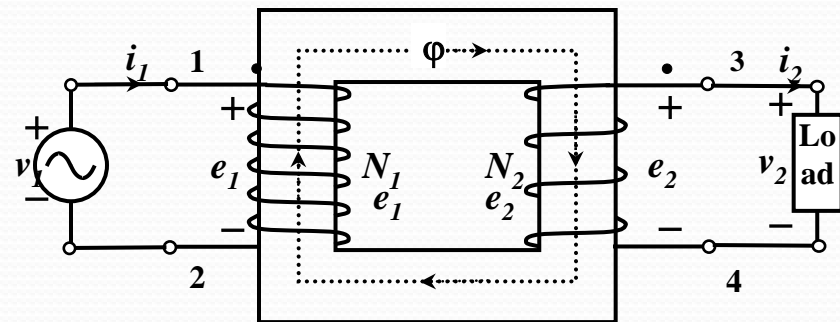

Figure 4.3 Schematic of an ideal transformer
- Consider an ideal transformer with these properties as shown in Figure 4.3, where the flux ϕ created in the core links both the coils.